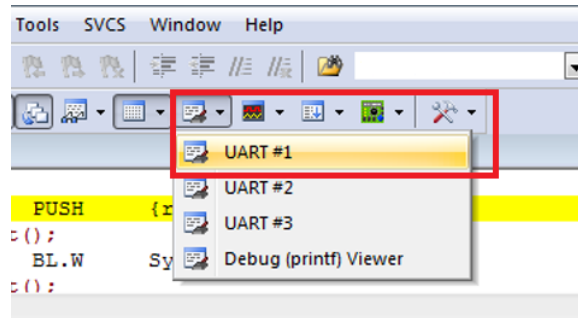
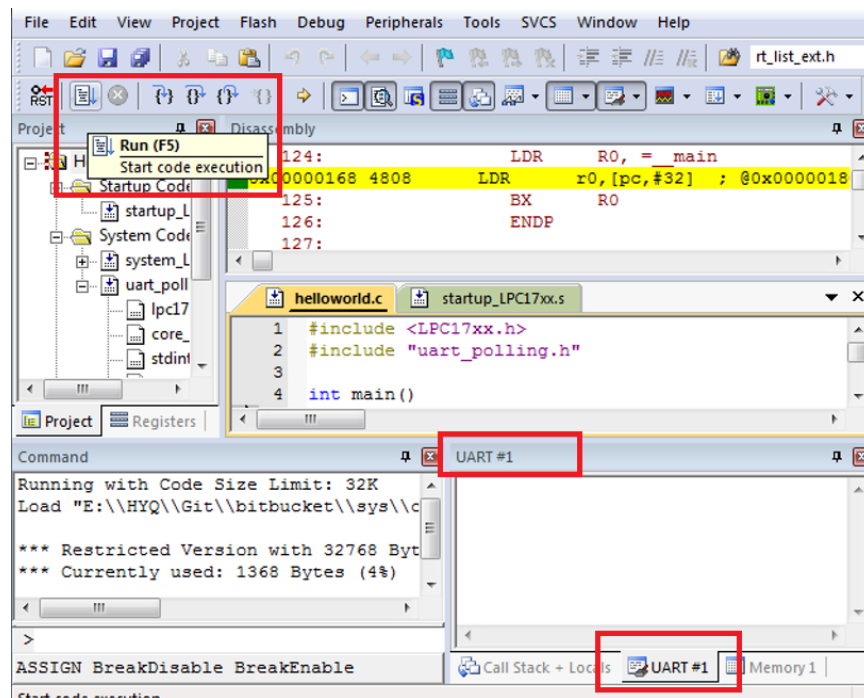

Figure 1.8: Keil IDE: Enable UART Window View
Figure 1.9: Keil IDE: UART Window View and Run Button
5. Choose UART#1 from the Serial Windows button (see Figure 1.8). You will see the UART#1 window shown up at the bottom right part of the screen (see Figure 1.9).
6. Click the Run button or press F5 key to execute the program under simulator (see Figure 1.9). You will see "Hello World!" appearing in the UART#1 window in the simulator.